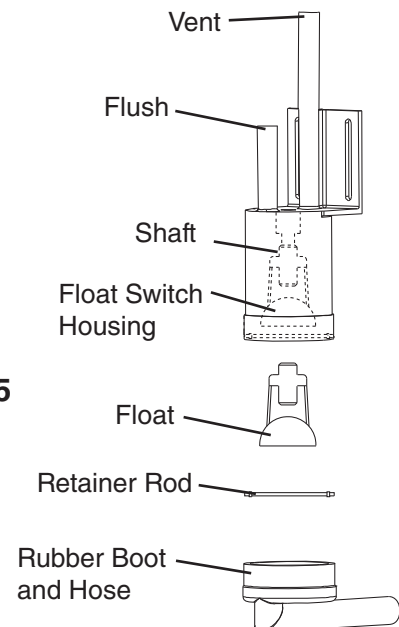

Fig. 5
- 8) Disconnect the vent tube and the flush tube from the top of F/S, then remove F/S assembly from the mounting bracket and remove the rubber boot from the bottom of F/S assembly. See Fig. 5.